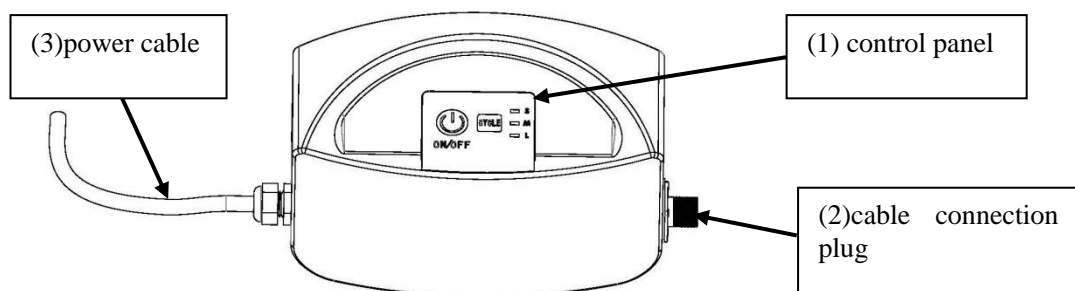

Fig. 4-1 Power supply unit
1. The Automatic Swimming Pool Cleaner consists of power supply unit, cleaner body, and remote control. The following are the components cleaner (see Fig.4-1/ 4-2/4-3)